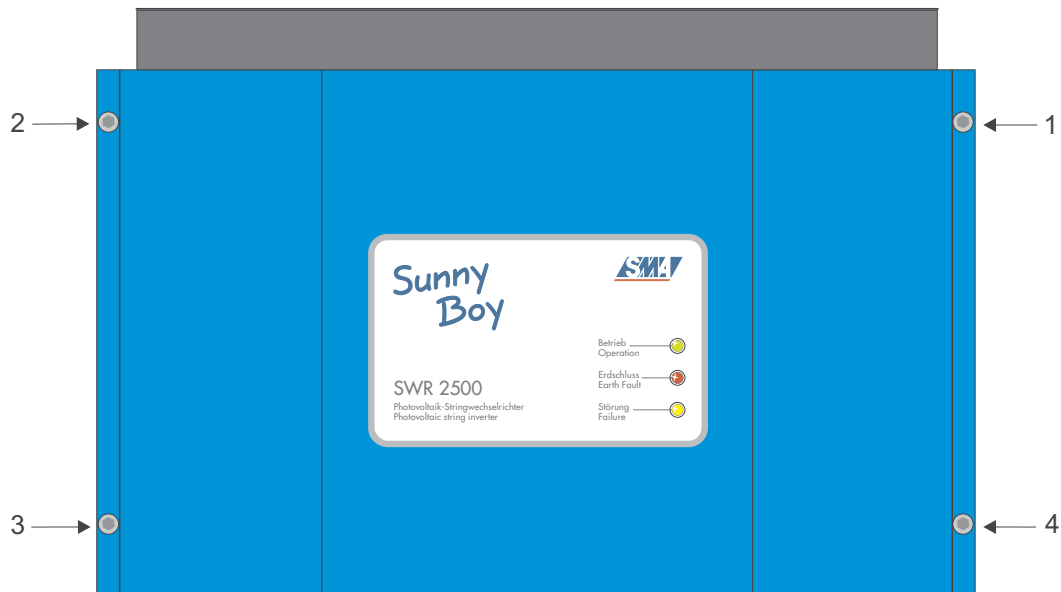

Fig. 5.2: Front view of the Sunny Boy 2500
4. Take off the lid by removing screws 1-4 (see Fig. 5.2 on page 44) on the lid (M5).